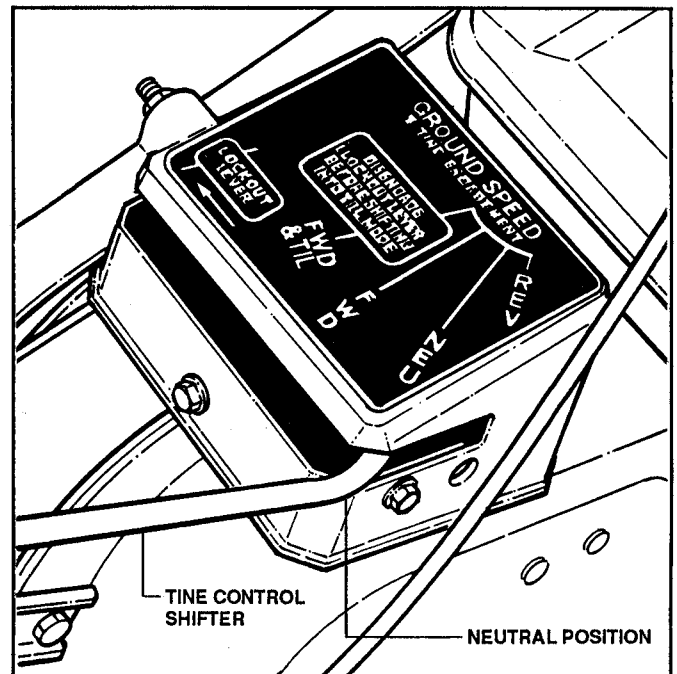

FIGURE 4
**STEP 1:** Shift the transmission into NEUTRAL and make sure WHEEL & TINE CONTROL is in released position. See Figure 4.